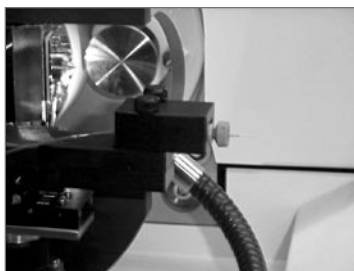

FIGURE 5 ADPC-MZS adapter mounted on nanoflow™ stage with a PicoFrit® column in place
- 5) Place the union mounting block on the end of the ADPC-MZS base plate as in Figure 5.
FIGURE 5 (A) Ferrule, cap, and sleeve ready for assembly with a PicoFrit® column or transfer line tubing (B) Ferrule in cap loaded with sleeve and column/transfer line tubing (C) PicoFrit column connected to the forward port of the MicroTee, mounted on the ADPC-MZS base plate